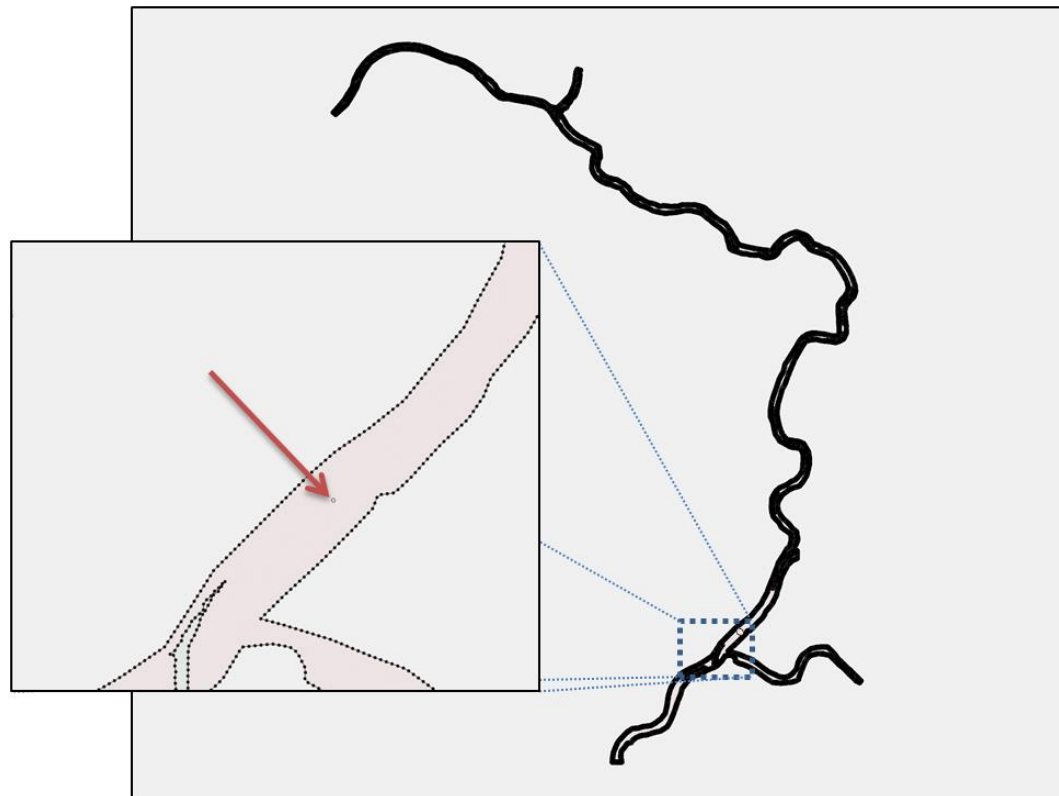

Figure 4: Wind Station location
2. **Zoom**  in on the location shown in Figure 4.
3. Using the **Create Feature Point**  tool, create a new node at the location shown in Figure 4.